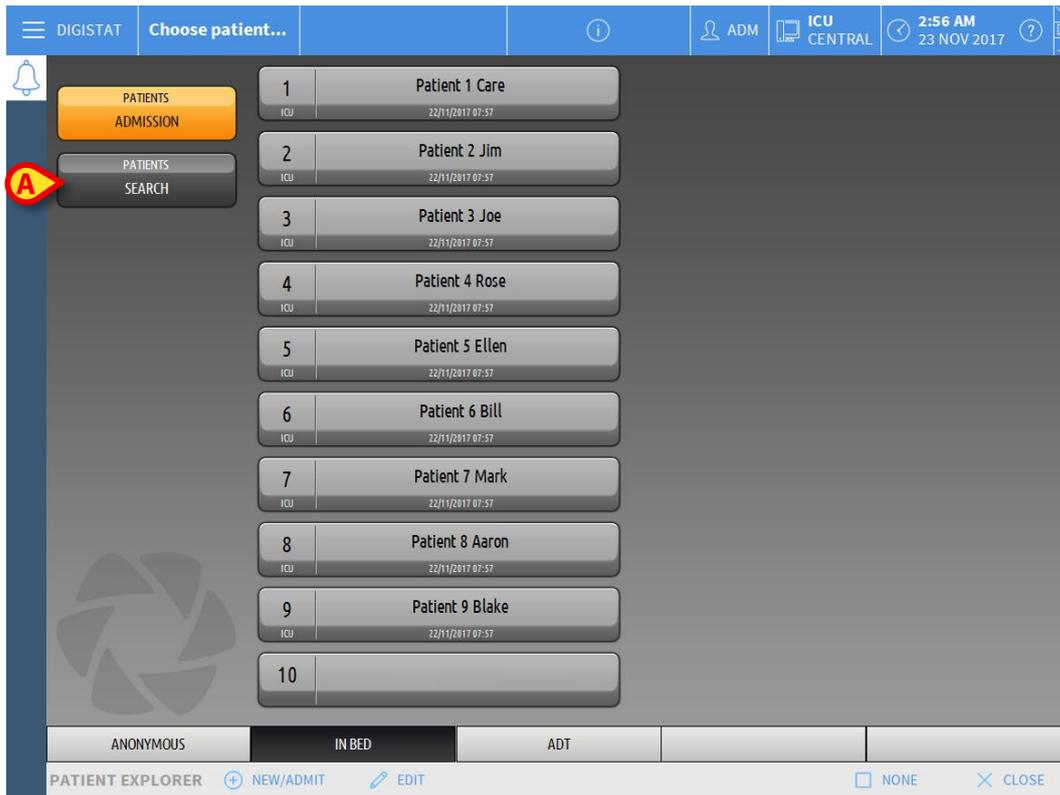

Fig 103
- Click the  button indicated in Fig 103 **A**